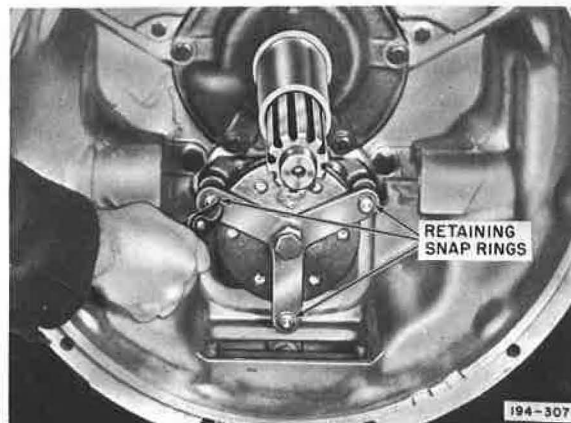

Figure 5-188. Installing Clutch Brake Pressure Plate Retaining Snap Rings
33. Retain clutch brake pressure plate by installing three snap rings as shown in Figure 5-188.